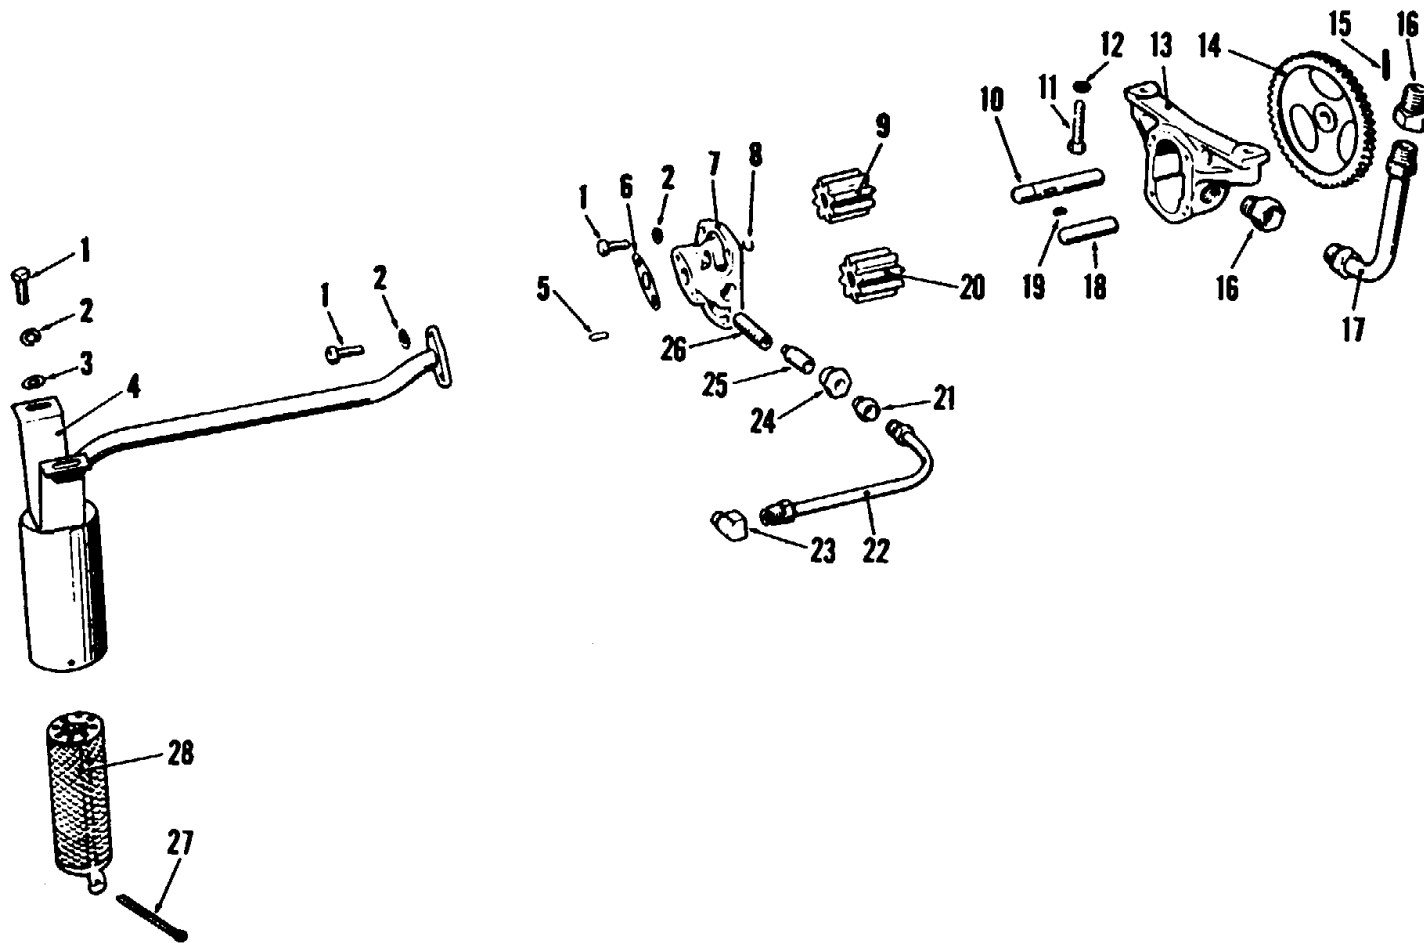

Figure 100. Exploded view of oil pump and oil lines.
a. Removal (fig. 100).
- (1) Drain and remove the lower oil pan (par. 217a).
- (2) Pull out the cotter pin (27) and remove the oil intake screen (28) from the suction line connection (4).
- (3) Remove the two hex head bolts (1) and lockwashers (2) that fasten the suction line connection (4) to the pump cover. Then remove the two hex head bolts (1), lockwashers (2) and plain washers (3) that attach the connection to the mounting boss within the upper oil pan and lift out the connection. Discard the connection gasket (6).
- (4) Disconnect the connector (16) and tube assembly (17) from the pump body and crankcase oil passage.